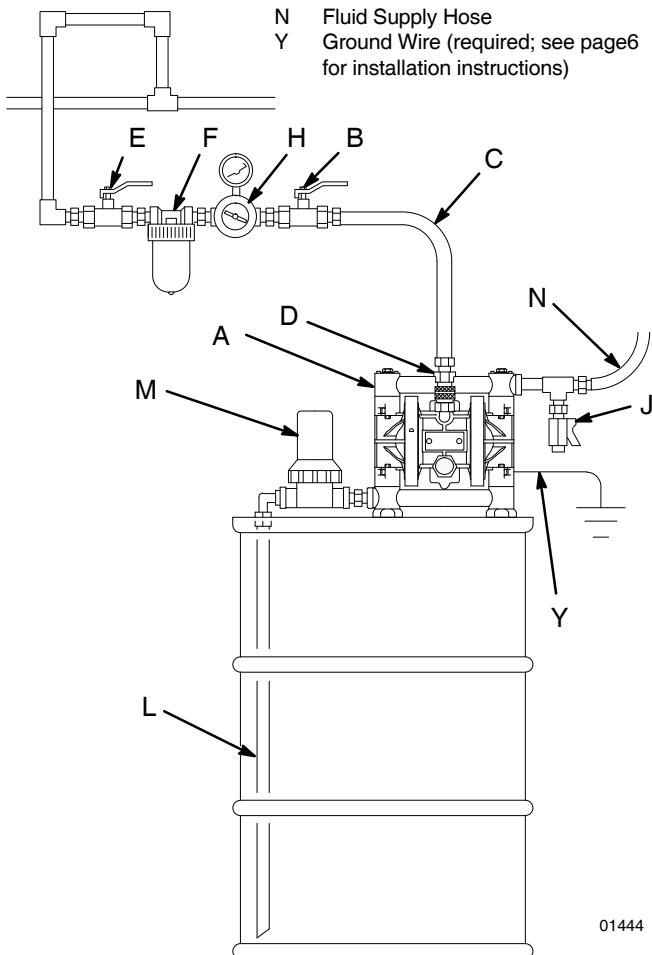
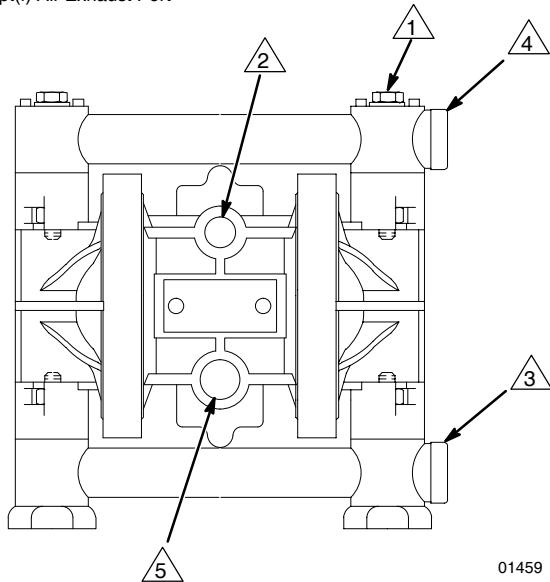

Fig. 2
Fig. 4
1. The Typical Installations in Figs. 2–3 are only guides for selecting and installing system components. Contact your VERDER Customer Service for assistance in planning a system to suit your needs.
2. The **VERDERAIR VA 10 Pump** can be used in a variety of installations, some of which are shown in Figs. 4–3. Kits are available to adapt your pump to your system. Refer to the Product Data Sheets.
When pumping conductive flammable fluids, **always** ground the fluid system by making sure the fluid has an electrical path to a true earth ground. See Fig. 2 and 3.
A bleed-type master air valve (B) is required in your system to relieve air trapped between this valve and the pump. See Figs. 2–3. Trapped air can cause the pump to cycle unexpectedly, which could result in serious injury, including splashing in the eyes or on the skin, injury from moving parts, or contamination from hazardous fluids.
1. Install the air line accessories as shown in Figs. 2–3. Mount these accessories on the wall or on a bracket. Be sure the air line supplying the accessories is grounded.
- a. The fluid pressure can be controlled. To control it on the air side, install an air regulator (H).
- b. Locate one bleed-type master air valve (B) close to the pump and use it to relieve trapped air. See the **Warning** above. Locate the other master air valve (E) upstream from all air line accessories and use it to isolate them during cleaning and repair.
- c. The air line filter (F) removes harmful dirt and moisture from the compressed air supply.
2. Install an electrically conductive, flexible air hose (C) between the accessories and the 1/4 npt(f) pump air inlet (see Fig. 4). Use a minimum 6.3 mm ID air hose. Screw an air line quick disconnect coupler (D) onto the end of the air hose (C), and screw the mating fitting into the pump air inlet snugly. Do not connect the coupler (D) to the fitting yet.
1. If using a conductive (Acetal) pump, use conductive hoses. If using a non-conductive pump, ground the fluid system. See **Grounding** on page 6. The pump fluid inlet is 3/8 bspt. See Fig. 4. Screw the fluid fitting into the pump inlet snugly.
A fluid drain valve (J) is required in your system to relieve pressure in the hose if it is plugged. See Figs. 2–3. The drain valve reduces the risk of serious injury, including splashing in the eyes or on the skin, or contamination from hazardous fluids when relieving pressure. Install the valve close to the pump fluid outlet.
1. Use electrically conductive fluid hoses (N). Depending on your model, the pump fluid outlet is 3/8 bspt or 3/8 npt(f). See Fig. 4. Screw the fluid fitting into the pump outlet snugly.
2. Install a fluid drain valve (J) near the fluid outlet. See the **Warning** above.
The pump is shipped with the fluid inlet and outlet ports facing the same direction. See Fig. 4. If desired, the direction of one or both ports can be changed. Remove the manifold(s) from the pump as explained in steps 1–2 and 4 on page 18. Reattach with the port facing the desired direction. See **Torque Sequence**, page 27. ***Do not over-torque.***